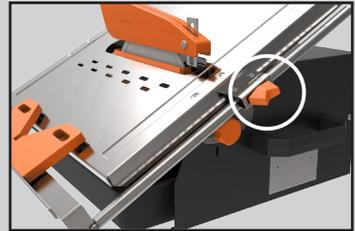

Fig. 7
- Tighten the round knobs to secure the table in place. (Fig 7)